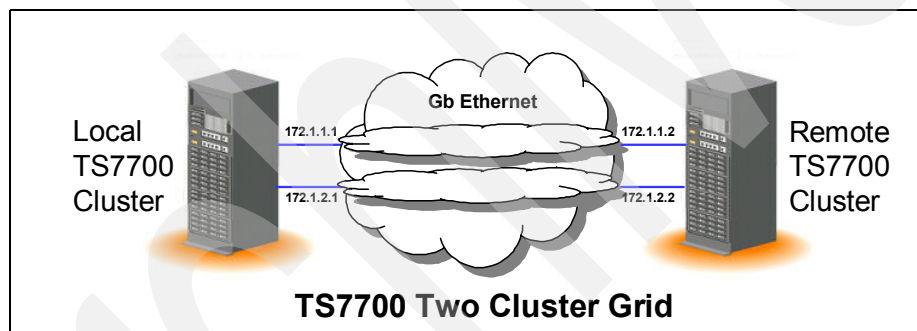

Figure 3-6 TS7700 Gbit Ethernet link subnets
See Figure 3-6 for a sample configuration for a Two-Cluster Grid.
**Note:** A Three-Cluster Grid simply adds another cluster to Figure 3-6 that uses, for example, IP addresses of 172.1.1.3 and 172.1.2.3.